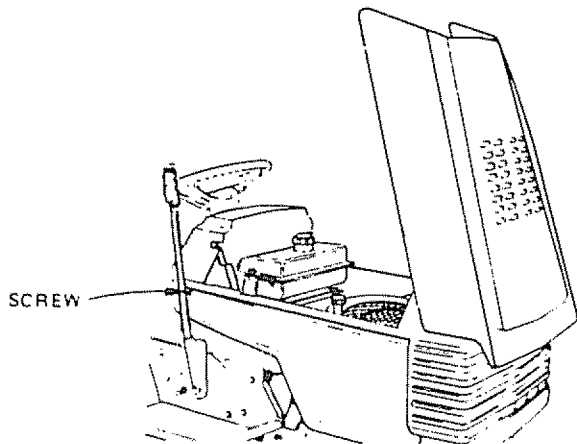

FIGURE 23
- To remove hood, grill and side panels, raise hood and loosen one screw on each side panel. (This screw remains in the side panel) (Fig. 23).